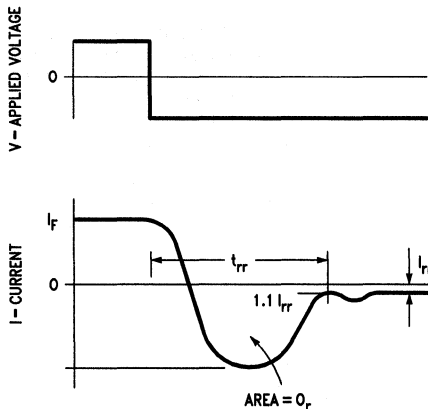

FIGURE 3
**If Forward Current:** The forward current passing through a diode operated under switching conditions. See *Figure 3*.
**Ir Reverse Current:** The peak value of reverse current which occurs immediately after switch-off. The value of  $I_r$  is limited by the circuit, which determines that rate at which stored charge can be dissipated. See *Figure 3*.
**Irr Reverse Current:** The steady value of reverse current at equilibrium after switch-off. See *Figure 3*.
**QS Stored Charge:** The charge stored in a diode when passing current in the forward direction. Stored charge is usually measured by switching the diode off and measuring the area of the  $I$  versus  $t$  curve from switchoff to equilibrium. See *Figure 3*.
**trr Reverse Recovery Time:** The time interval between the point at which a diode is turned off and the point at which the reverse current comes to within 10% of its equilibrium level. See *Figure 3*.